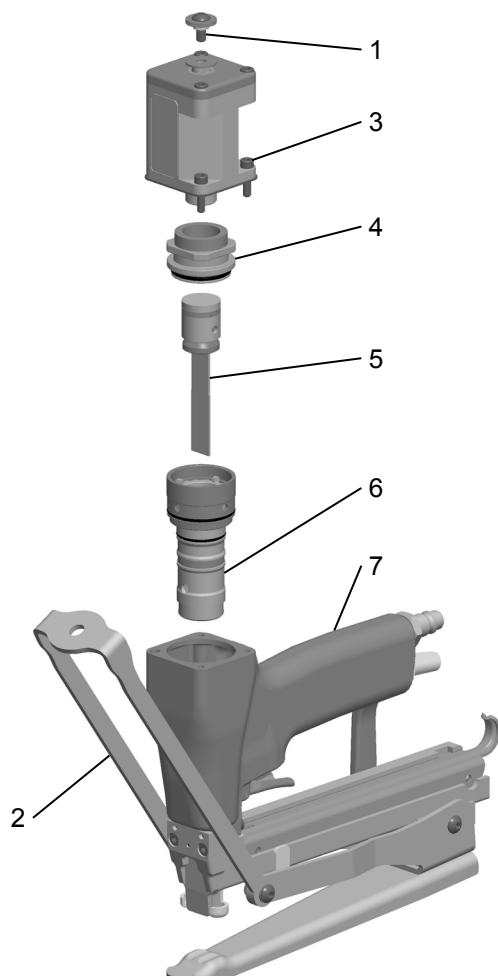

Fig. 7
- Dissassemble the screw (Fig. 7/1) holding the power arm (7/2) and turn it underneath the magazine.